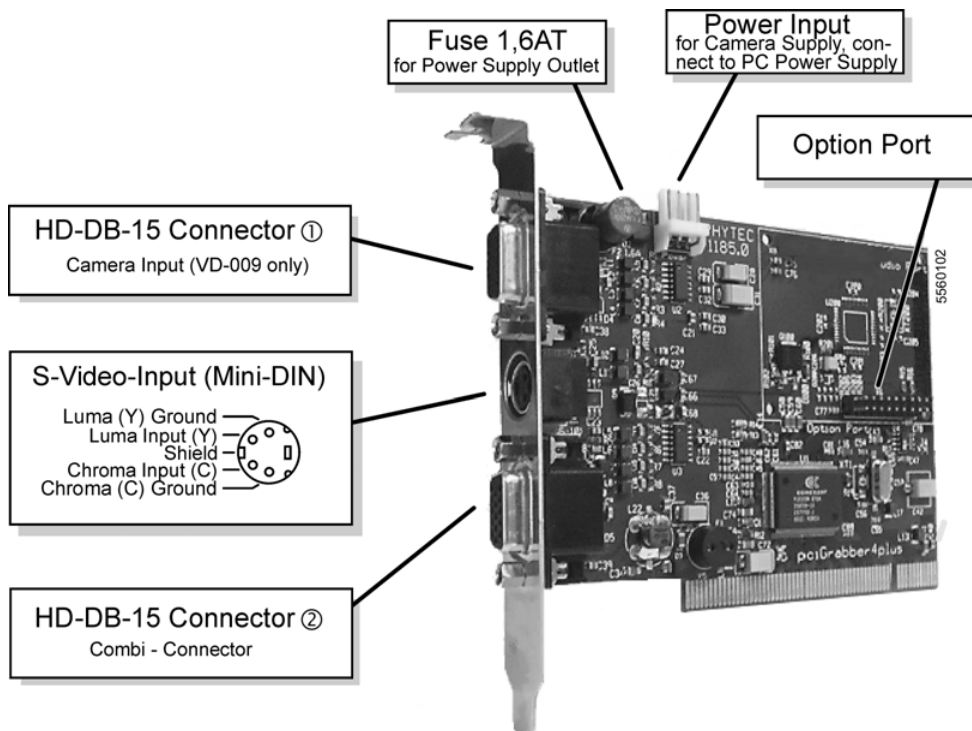

Figure 2: Connectors of the pciGrabber-4plus
- It is possible to direct an S-Video signal to the 4-pin Mini DIN socket (X3). The socket is switched to the corresponding S-Video norms (*refer to Figure 2*). The connection of the camera is possible using an S-Video cable.
- Using a special cable (i.e. WK075), it is possible to connect an S-Video camera to the HD-DB-15 socket ②. Connecting the S-Video camera in this manner allows additional power supplies of +12 V, or additional signals, to be directed via the same connection cable.